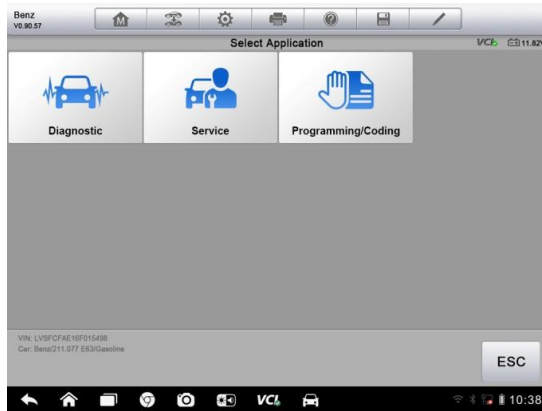

Figure 4-2 Sample Vehicle Diagnostics Screen
5. Tap **Done**. The vehicle will be identified in a few seconds, and once the matching is successful, the system will guide you to the Vehicle Diagnostics screen directly. (*Figure 4-2*)
9. Select **Yes** and the vehicle diagnostics screen displays. (Figure 4-2)
6. Select **Yes** and the Vehicle Diagnostics screen displays. (Figure 4-2)
The Vehicle Diagnostics screen (*Figure 4-2*) has three main options: